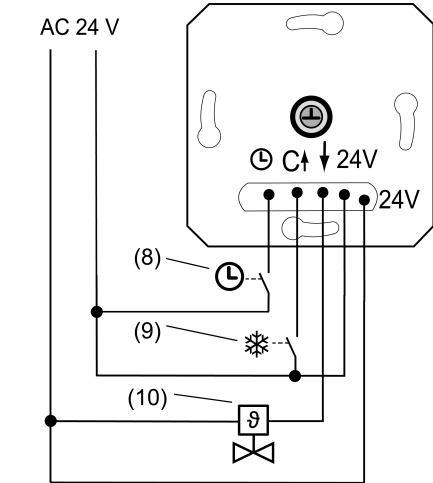

Figure 2: Connection example of the insert
- Connect electrothermal valve drive (10) to insert (1) according to connection diagram (Figure 2). Observe the conductor cross-sections (Figure 3).
- Optionally, connect the ECO operation input $\ominus$ via a switching contact of a central clock (8). If 24 V is applied to the input, the setpoint temperature is reduced by 4 °C, exclusively in heating mode.
- Optionally, connect the cooling input **C** via a switching contact of the heating system (9). If 24 V is applied to input C, the cooling mode is active. If 24 V is switched off, the device automatically switches to heating mode. After each switchover, the LED lights up for 10 seconds in the colour of the current operating mode.